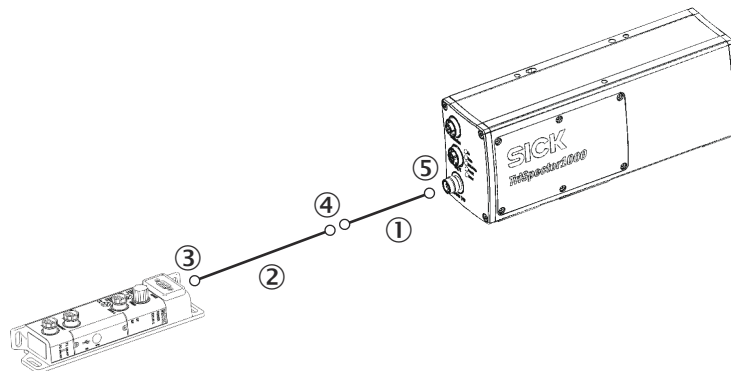

Figure 20: Connecting the device to the CDF600-22xx by pre-assembled cables
1. Connect the TriSpectorP1000 to the CDF600-22xx by a connection cable (e.g. part no 2055419) and a cable adapter (part no 2086398) according to figure 20.